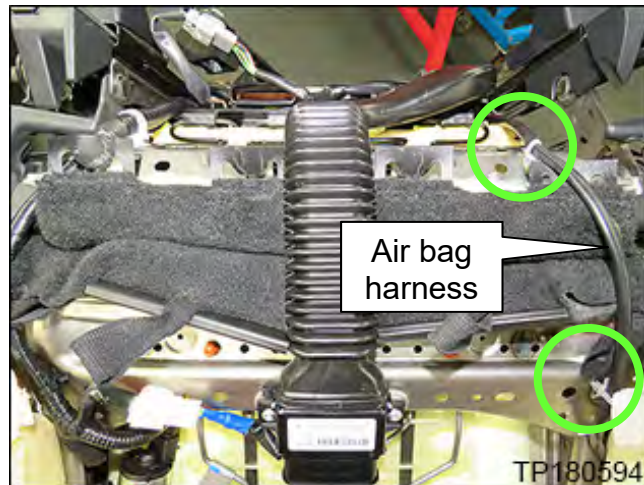

Figure 20
20. Unclip the air bag harness from the seat assembly frame at the two (2) points shown in Figure 20.